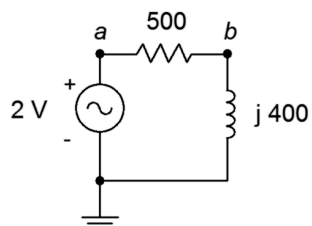

Figure 2.14
28. For the circuit of Figure 2.14, determine the circulating current and the voltages across each component. Draw a phasor diagram of the three component voltages and determine the time delay between the inductor and resistor voltages..